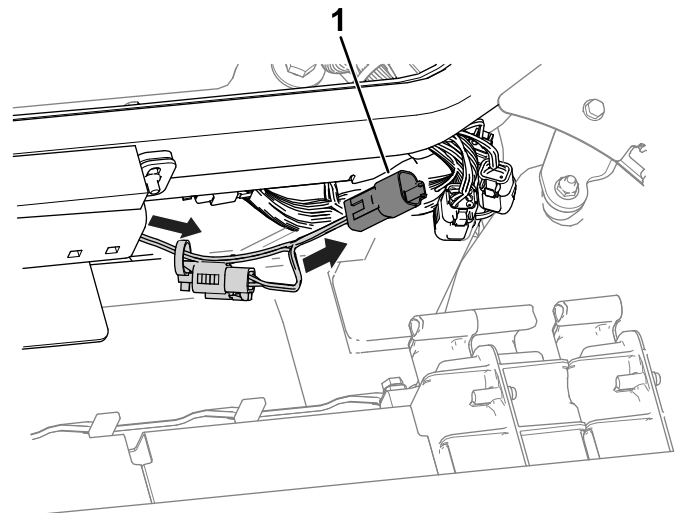

Figure 4
5. Route the wire-harness leg (Figure 4) toward the connectors above the hydraulic-tank cap and connect it to the machine wire-harness connector labeled DRIVING LIGHT KIT POWER.